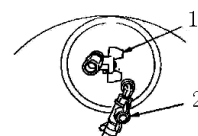

Fig.2-35
- b) Close the fuel ball valve (Fig.2-35) in the bottom of fuel tank to stop the supply of fuel.